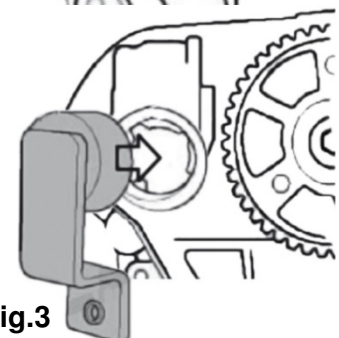

Fig.3
Fit tool (2) as shown in Fig. 3